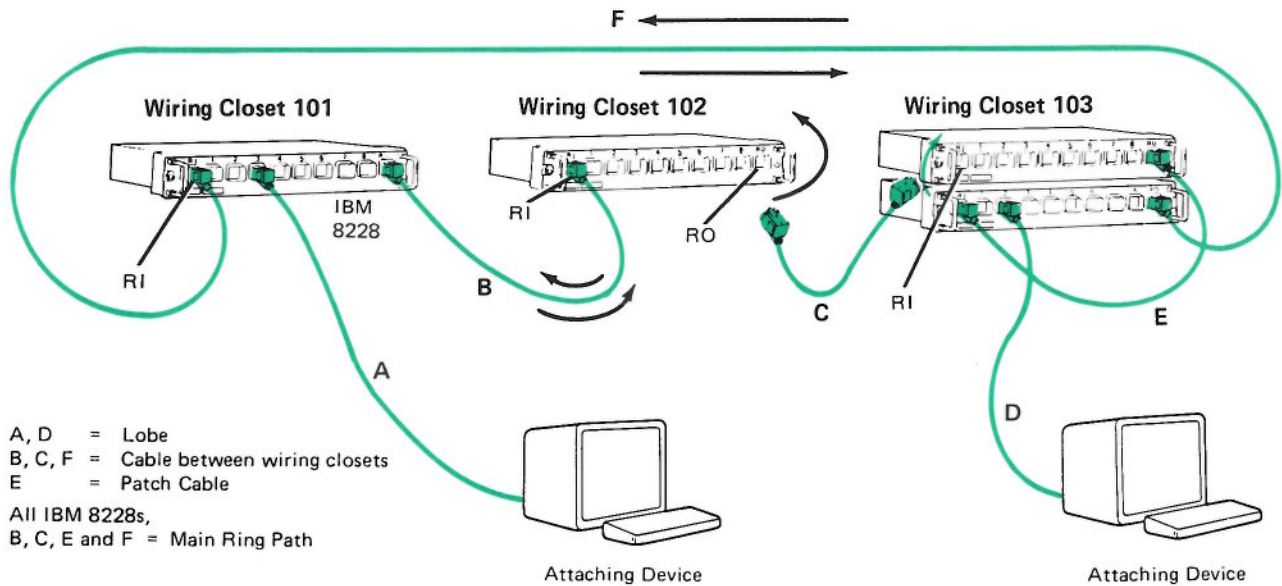

Figure 1-4. Signal Transmission through the Main Ring Path and Backup Path
To illustrate the significance of the self-shorting feature during problem determination, consider the case shown in Figure 1-4. There is a break in the cable between wiring closets 102 and 103 in a ring having three wiring closets. Cable C is disconnected at both ends until it can be repaired. Consequently, the ring out (RO) receptacle of the IBM 8228 in wiring closet 102 is no longer connected to the ring in (RI) receptacle of the first IBM 8228 in wiring closet 103.